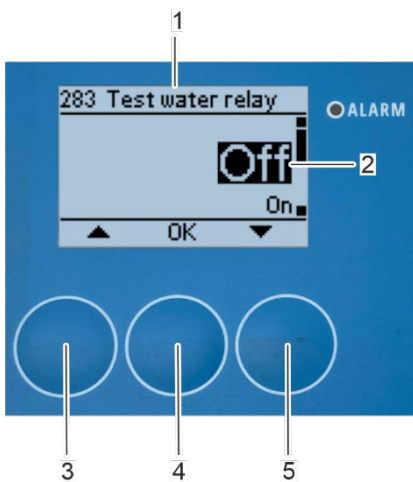

Fig. 151: Switch off water relay
⇒ The "283 Test water relay" submenu (Fig. 151/1) appears on the display.
6. Select "Off" (Fig. 151//2) with the arrow keys [up] (Fig. 151//3) and [down] (Fig. 67/5).
7. Confirm the selection with [OK] (Fig. 151//4).